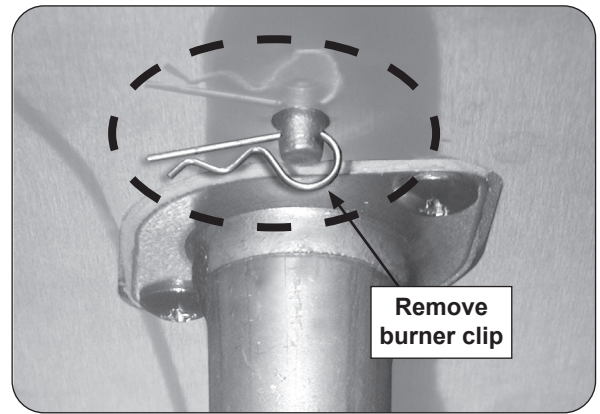

Fig. 39-1 Remove burner clip
3. Reach up under the burner support and remove the burner retaining clip (see Fig. 39-1), located at the rear of the burner pipe.
7. Replace the burner retaining clip (underneath burner). Reference Fig. 39-1.